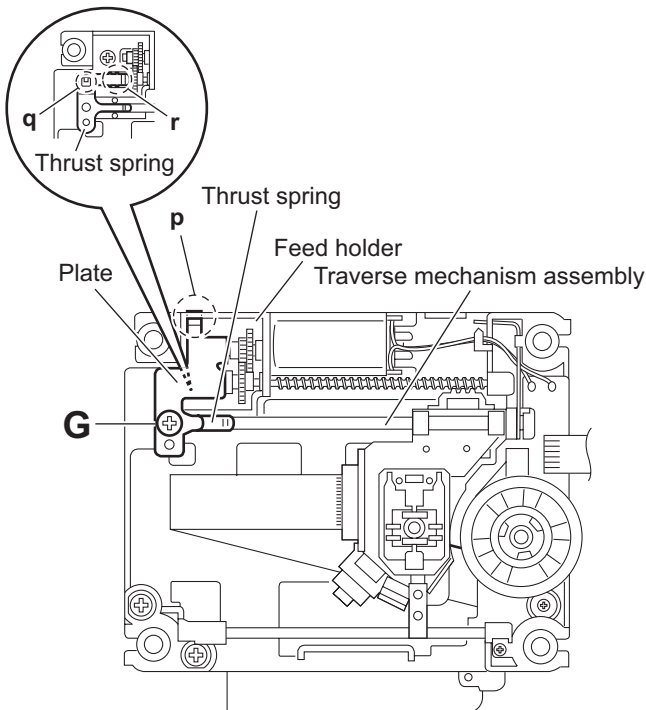

Fig.10
3.2.7 Removing the feed motor (See Figs.10 to 12)
- From the top side of the traverse mechanism assembly, remove the screw **G** attaching the plate and thrust spring. (See Fig.10.)
- Remove the engagement section **p** attaching the plate to the feed holder and remove the plate. (See Fig.10.)
- Remove the engagement sections (**q**, **r**), remove the thrust spring. (See Fig.10.)